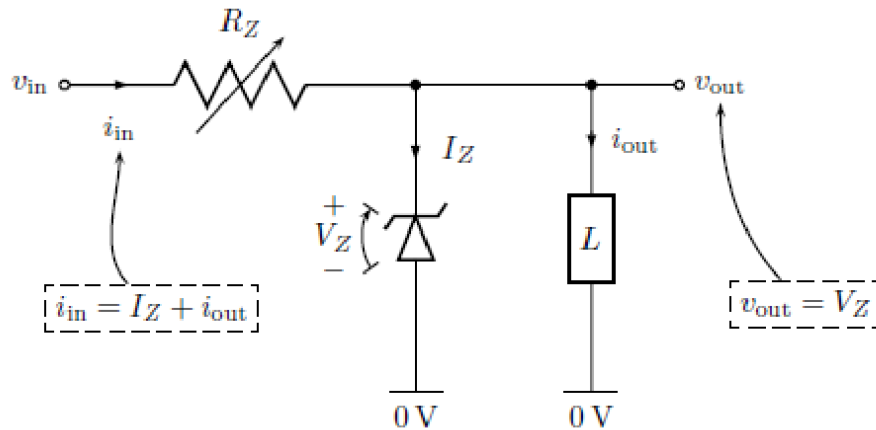

Figure 1: Zener diode shunt voltage regulator with load L.
A simple voltage regulator circuit is shown below in Fig. 1. The input voltage is fed to a resistor connected to a shunt zener diode. A zener diode is a special type of diode that is operated in the reverse direction when it is used in a voltage regulator. When operated in reverse bias, the diode maintains a constant voltage across the diode irrespective of the diode current (provided the current is above the minimum breakdown current and below the maximum current rating).
1. Draw the Zener regulator circuit (Figure 1.) in LTSpice. Use a 15 V DC input, a 1 kΩ series resistor, and a 5 V Zener diode. Connect a load resistor R_L across the diode.